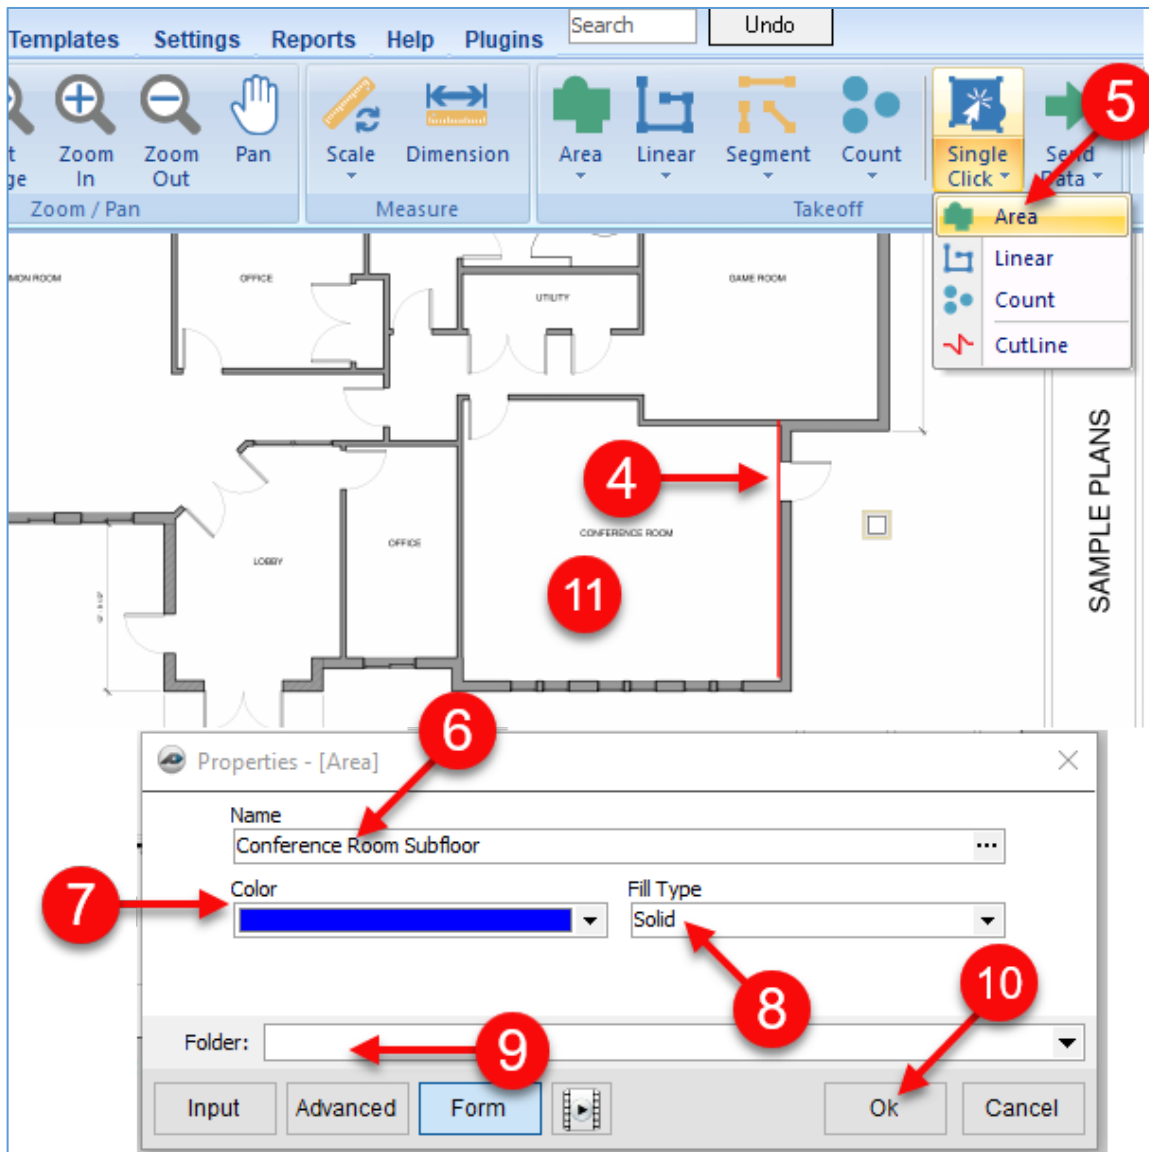

Figure 30-B
12. An array of one-click icons now fills the area (Fig. 30-C). If you have more than one area to include, click those areas next. Each time you click a new area, the fill will be placed in the previous area.